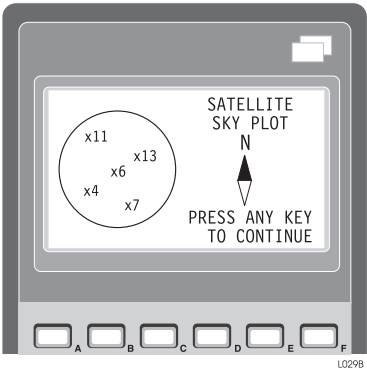

Figure 3.30: Satellite Sky Plot
2. Press the **D (PLOT)** key to view the Satellite Configuration Sky Plot (Figure 3.30).